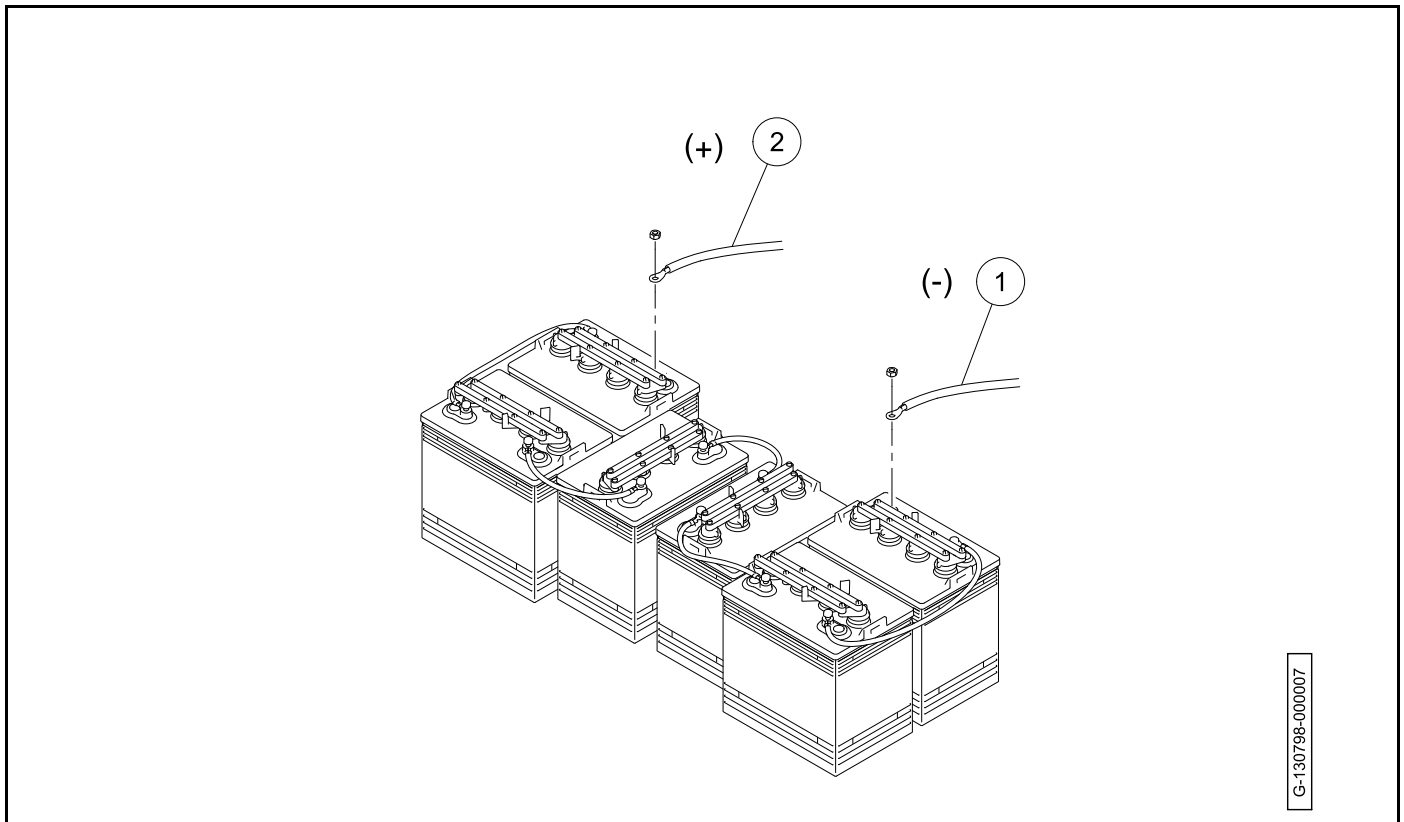

Figure 1-2 Disconnect Electric Vehicle Batteries
3. Disconnect the negative (-) cable (1) (Figure 1-2, Page 1-5).